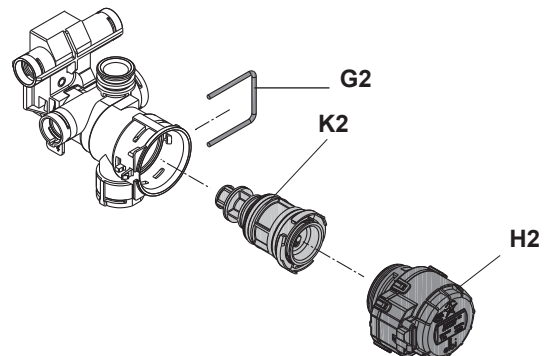

Fig. 38
7.25 DIVERTER VALVE ASSEMBLY (FIG. 38)